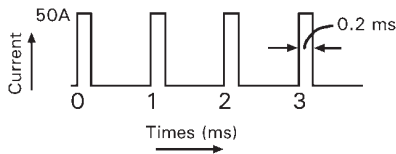

FIGURE 2.6 The current waveform in Example 2.3.
**EXAMPLE 2.3** The current waveform passing through a diode switch in a switch-mode power-supply application is shown in Fig. 2.6. Find the average, rms and peak currents.